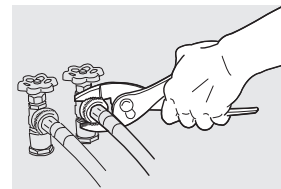

Fig. 6
6. Tighten by hand until snug. Then tighten each supply connection another 2/3 turn with pliers. **Do not bend, kink or pinch water inlet hoses.** (Fig. 6).